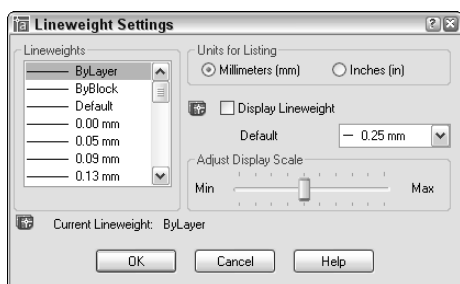

Figure 11-9: The Lineweight Settings dialog box lets you format how lineweights are measured and displayed.
- ♦ By default, lineweights are measured in millimeters. You can format lineweights by choosing Format ⇨ Lineweight. The Lineweight Settings dialog box opens, shown in Figure 11-9. The Lineweights section lists available lineweights. Choose a default lineweight from the Default drop-down list. The default is 0.01 inch or 0.25 mm. The Adjust Display Scale slider determines how lineweights are displayed on the Model tab. Adjust this setting if you use several closely related lineweights but can't distinguish them on your screen. The Display Lineweight check box turns the display of lineweights on and off. (See the next bullet for an easier way to do this.)